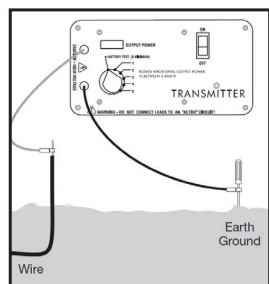

FIGURE 1: Transmitter Setup
1. With the transmitter off, connect the red lead to the wire to be located and the black lead to a good earth ground with the stake provided. (Refer to Figure 1)